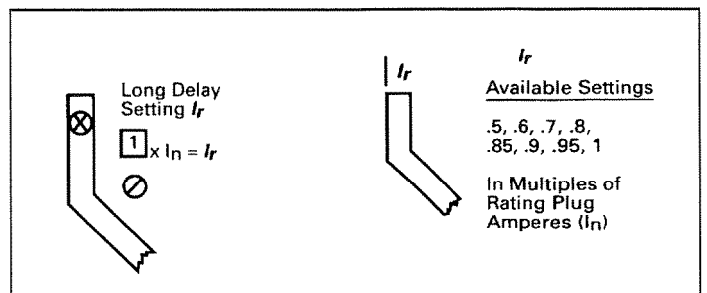

Fig. 8.1 Long Delay Current Settings
ber of settings that must be made is determined by the protection supplied as illustrated in Figs. 8.1 through 8.7. Each setting is made with a rotary switch, using a small screwdriver. The selected setting for each adjustment appears in its respective rectangular viewing window as illustrated in Fig. 1.
The available settings, along with the illustrated effect of changing the settings are given in Figs. 8.1 through 8.7.
There are eight (8) available Long Delay “Pick-up” Current settings, as illustrated in Fig. 8.1. Each setting, called “ I_r ”, is expressed as a multiple (ranging from .5 to 1) of the rating plug current (I_n).